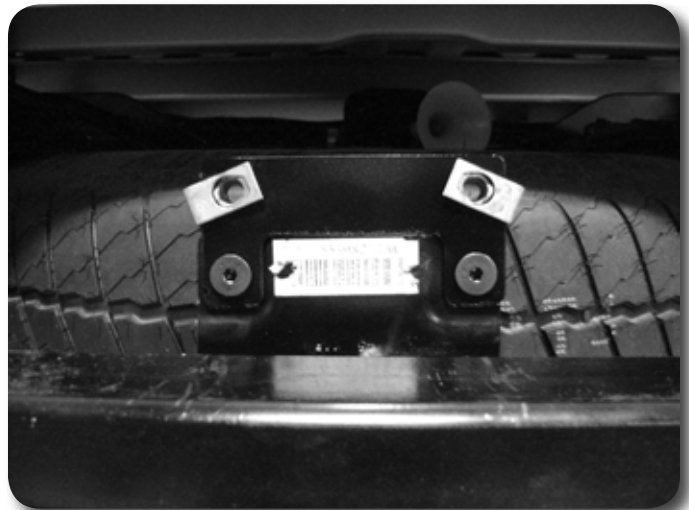

Figure 17
46. Remove the factory U-Nuts from the center bracket and install them in the large holes of the center relocation bracket. Install the center relocation bracket using the 3/8" Flat head bolts, 5/16" USS washers, and flange nuts. **Figure 17**